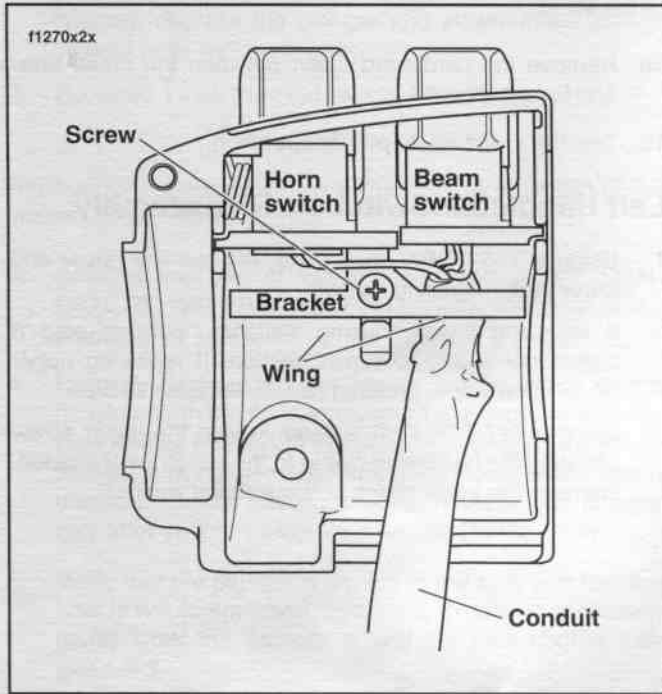
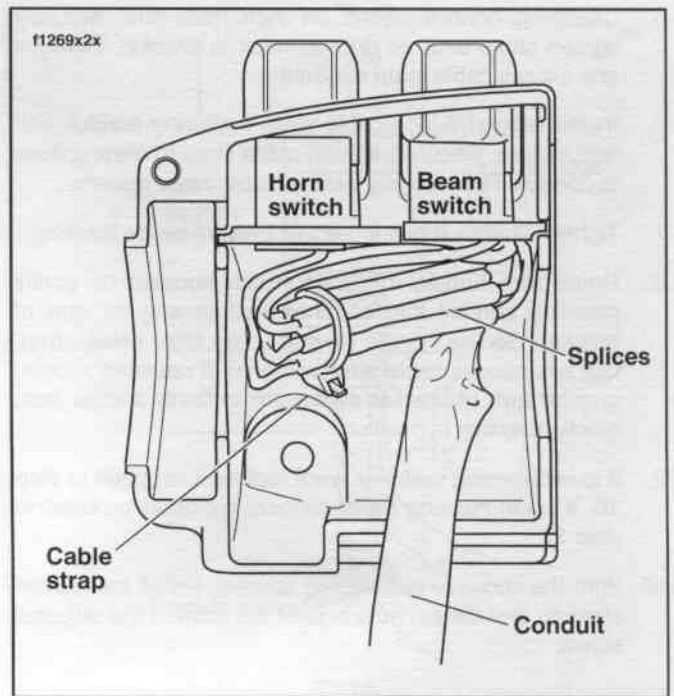

Figure 8-72. Upper Left Handlebar Switch Housing (Without Splices)
Figure 8-73. Upper Left Handlebar Switch Housing (With Splices)
1. See Figure 8-72. From inside the switch housing, remove Phillips screw and lockwasher to release bracket. Remove bracket and switch assembly from the housing.
6. Loop switch wires so that spliced lengths are positioned as shown in Figure 8-73. Route wires downstream of splices beneath wing on high/low beam switch side of bracket as seen in Figure 8-72.
9. Install Phillips screw (with lockwasher) to secure bracket inside housing. Verify that wing on high/low beam switch side of bracket captures edge of conduit as shown in Figure 8-72.